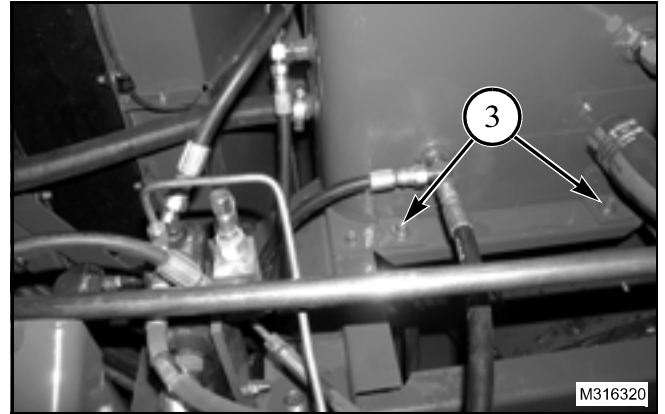

FIG. 13
FIG. 13: Remove the two front full thread hex flange screw (3) with a hardened wide plain washer and a hex lock nut securing the hydraulic reservoir. Remove the hydraulic reservoir from the combine.